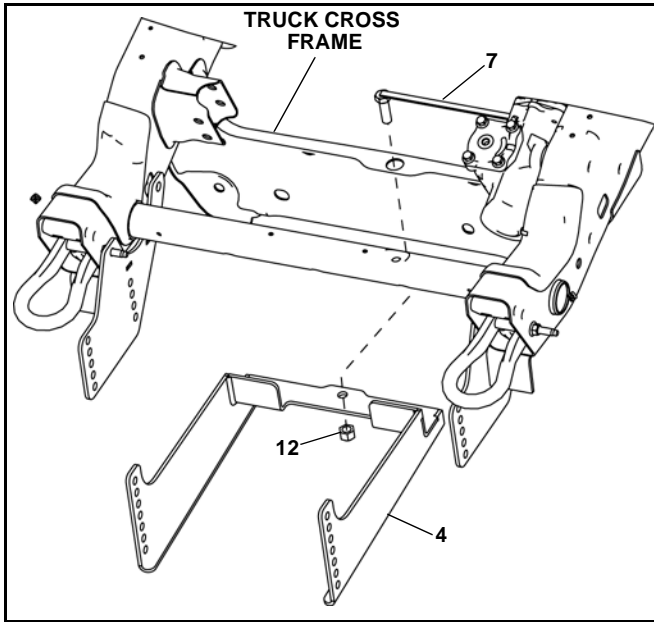

Figure 2
10. Position item #4 under the truck's cross frame. Insert item #7 into the cross frame through the top and into the hole located in the middle. Slide item #4 over item #7 and loosely attach with item #12. (See Figure 2.)
11. Attach item #1 to item #2 & #3, using (8) of item #9, (4) of item #6, (2) of item #10, and (6) of item #13. (See Parts List Illustration.)
12. Secure item #1 to item #5 using (4) of item #9 and (4) of item #13.